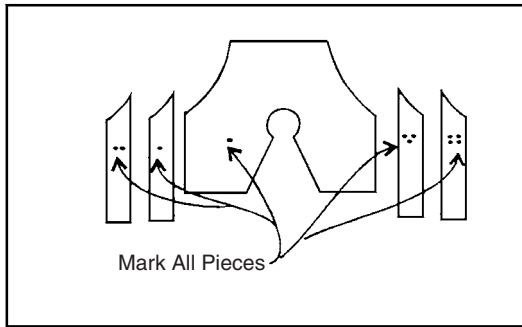

Figure 23.7 Cut out and mark the coverplate.
9. Cut out the coverplate and the ward plate from 16-gauge sheet metal. The coverplate and ward plate spacers are 1¼-inch lengths of ⅜-inch square bar. Grind the top edge of each spacer to conform to the top edge of the coverplate. Mark all pieces as shown in Fig. 23.7.